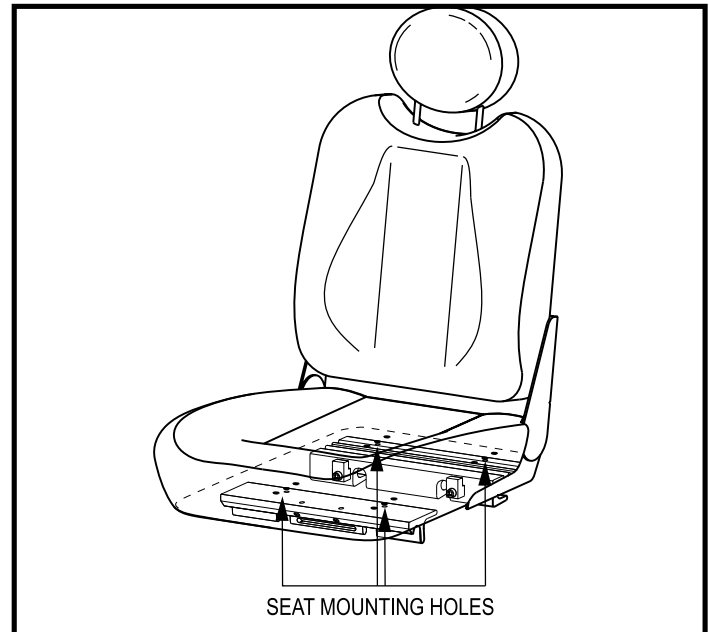

Figure 17. Seat Position (Extrusion Location)
3. Remove both extrusions from the bottom of the seat. See figure 17.
4. Reposition the extrusions on a different set of mounting holes. You must move both extrusions the same number of holes either forward or backward. See figure 17.